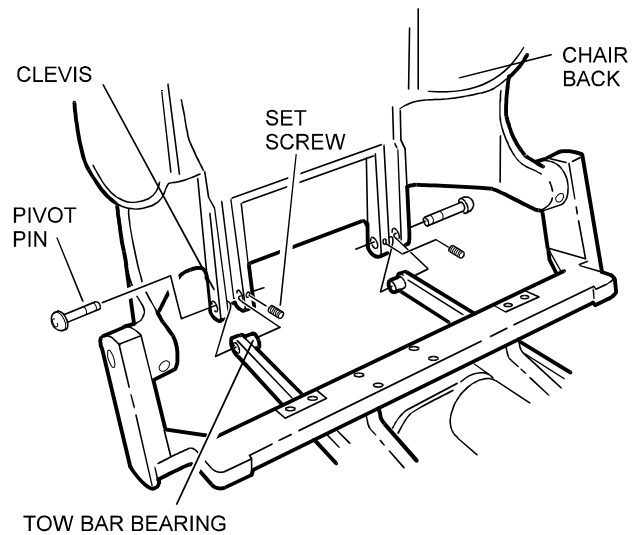

Figure 4
4. Align the tow bar bearings with the clevis and insert the pins on both sides as shown in Figure 4.